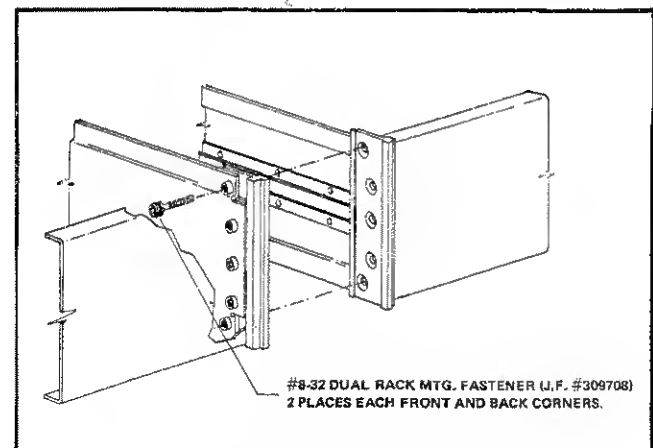

Figure 6-3. DUAL RACK MOUNTING
- i. Bolt the two instruments together as shown in Figure 6-3.